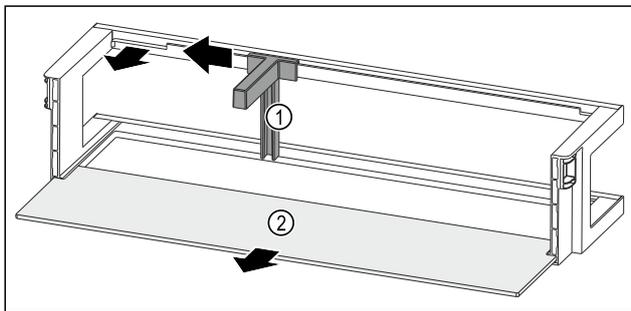

Fig. 91 Door rack with bottle holder and shelf
- ▶ Slide the bottle holder Fig. 91 (1) to the side as far as the recess.
- ▶ Remove the bottle holder Fig. 91 (1).
- ▶ Remove the shelf Fig. 91 (2).